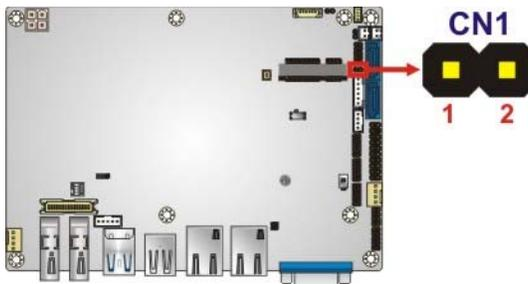

Figure 3-24: EC SPI Flash Connector Location
3.2.23 SPI Flash Connector (EC)
- CN Location:** See **Figure 3-24**